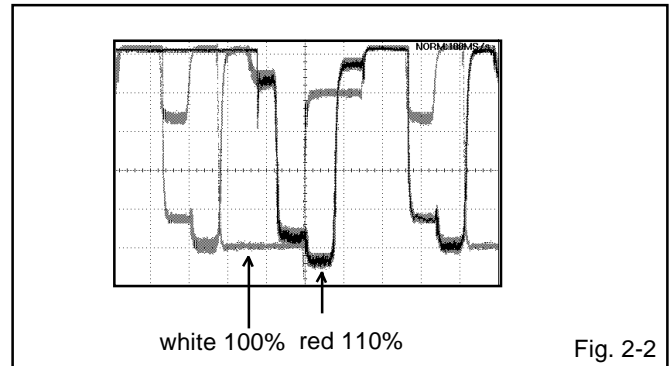

Fig. 2-2
7. Press the VOL. UP/DOWN button on the remote control until the red color level is adjusted to  $110 \pm 10\%$  of the white level. **(Refer to Fig. 2-2)**